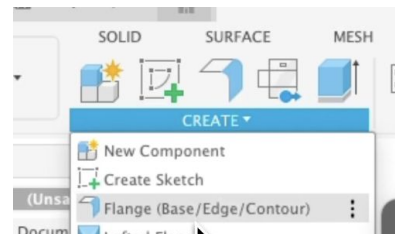

Figure 1.8
- Use **Create** → **Flange** again to add more bends from the edges of your base flange (see Figure 1.8).